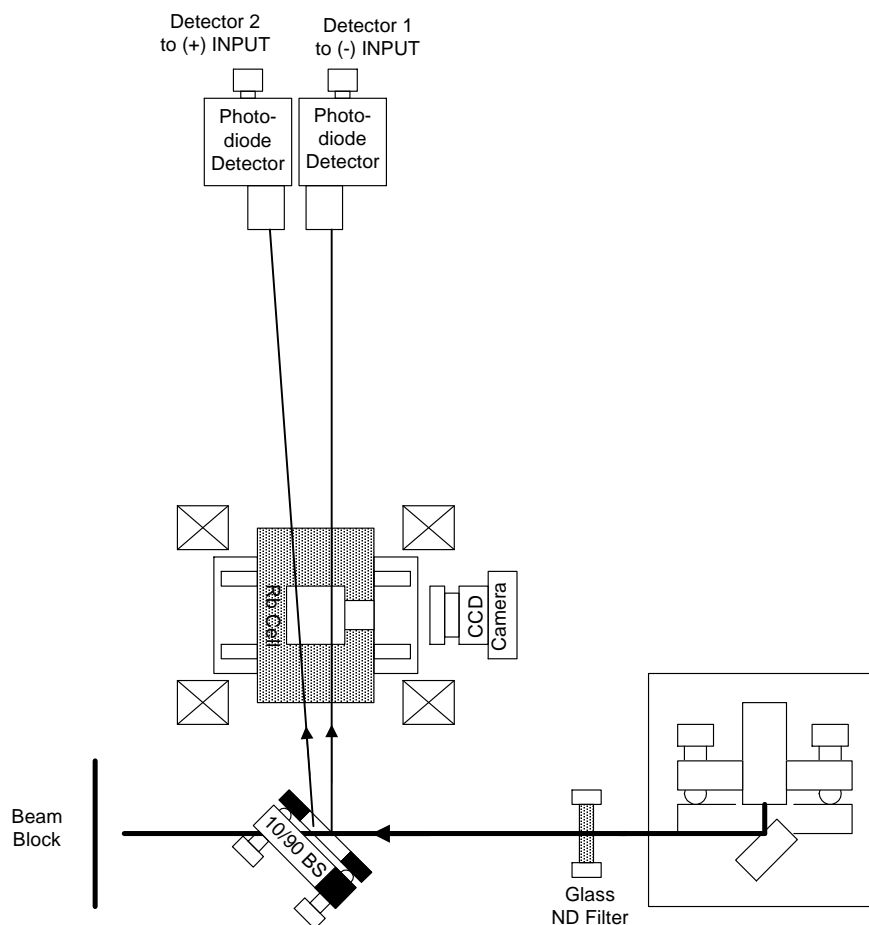

Figure 2. Start of SAS setup with 1° wedged beam splitter in place
2. Reconfigure the apparatus you have been using into the layout shown in Figure 2. (This is only part of the complete SAS setup. We'll add the rest later.)